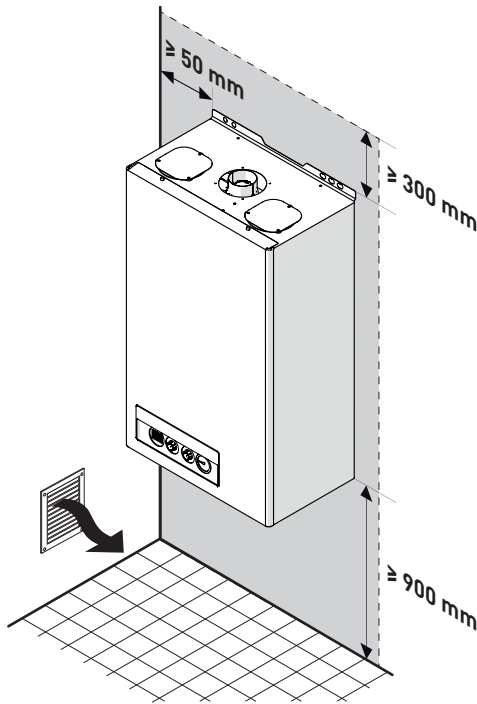

Fig. 25
- Remember to consider the space needed in order to access the safety/adjustment devices and to carry out maintenance interventions (see Fig. 25).